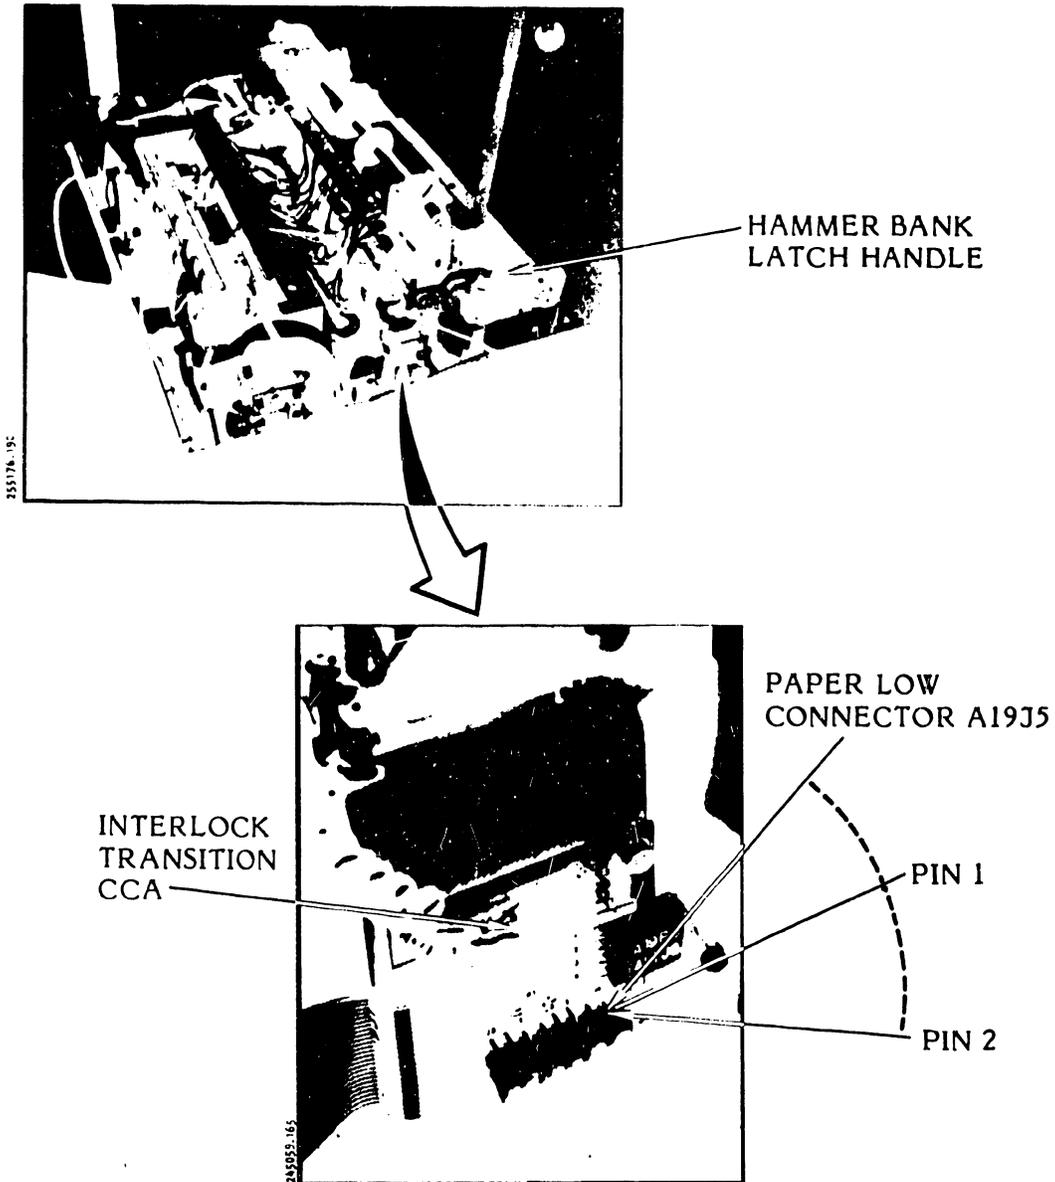

Figure 3-56. Interlock Transition CCA Connector Pin Locations
(300 LPM Printer) (Figures 3-56, 3-57)
- c. Locate the Interlock Transition CCA as shown in figure 3-56.
- e. Open the hammer bank (see figure 3-56).